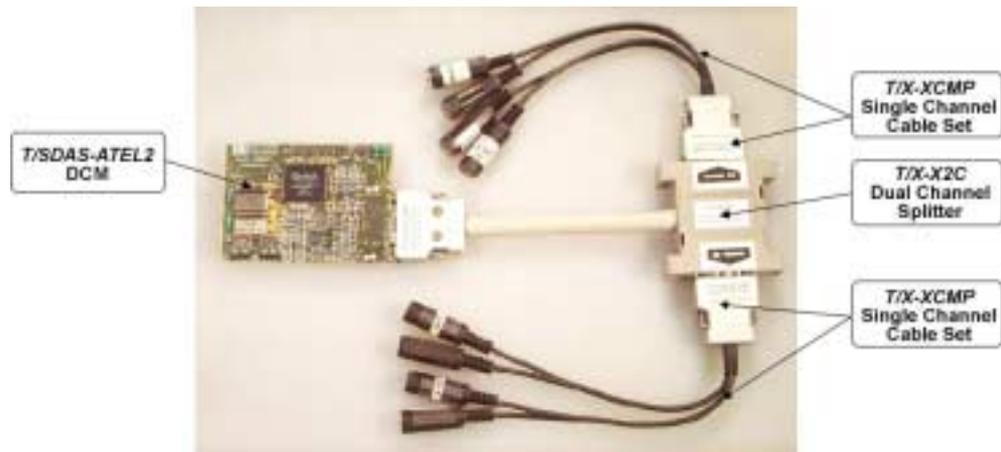

Fig. 1-9. T/SDAS-ATEL2 DCM with T/X-X2C dual-channel splitter and two T/X-XCMP single-channel cable sets.
- up to two *T/X-XCMP* single-channel analog signal I/O cable sets, which connect to *T/X-X2C* dual-channel splitter (fig.1-9), and allow connection of MIC/Line-in/Line-out/Phone sets to any channel